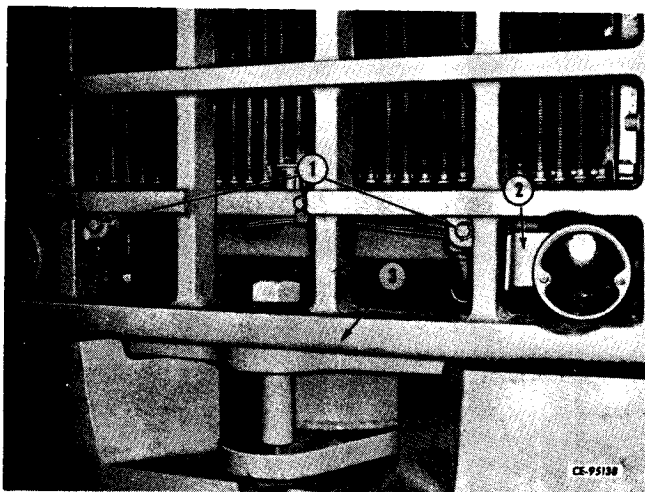

Figure 2-40
Remove tail light brackets (2, Fig. 2-40) by removing cap screws and nuts (1). With tail lights removed, disconnect electrical wires and tag.